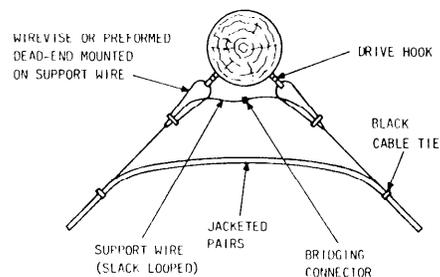

Fig. 14 - Turn in Multiple ASW Run at Intermediate Pole
- 4.03 At installations where pole-to-pole spans are required, attach the support wire at the end pole of the run in the same manner as described in paragraph 4.02. If splicing is required, follow the instructions in Part 7. The support wire must be both electrically and mechanically continuous. To maintain continuity at areas where the support wire is not under tension, use a bridging connector (Fig. 14).
- 4.05 When it is necessary to make a turn in the multiple pair ASW run at an intermediate pole location, attach the drop wire as shown in Fig. 14